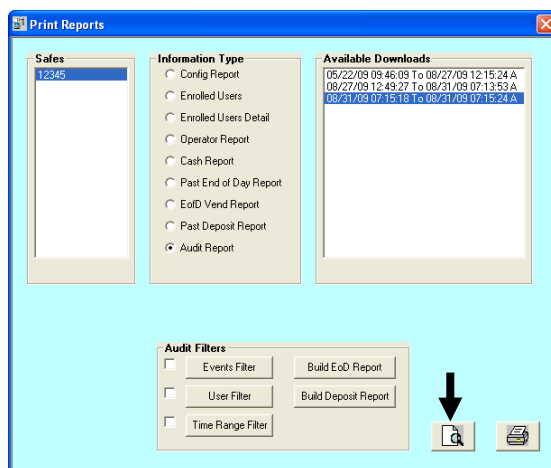
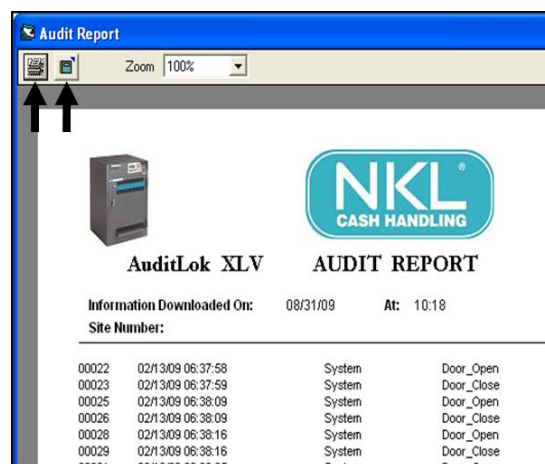

Fig. 9.10
Fig. 9.11
- 5) Once you have selected the information type and applied the filters, select the **Preview** button to view the information (Fig. 9.10). The next screen allows you to print or export the data being viewed (Fig. 9.11).